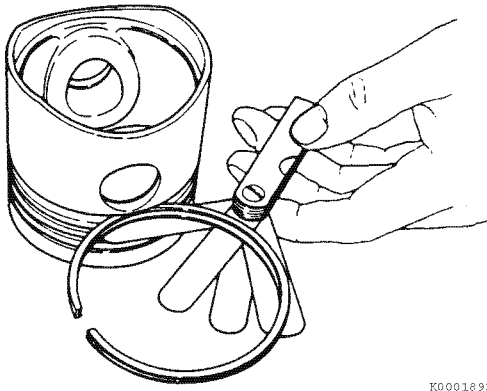

Figure 6-117
9. Place each compression piston ring in the groove as shown (Figure 6-117). Use a feeler gauge to measure the clearance between the piston ring and the piston ring land. Record the measurements. See *Piston Ring* on page 6-14 for specifications. Replace the piston if not within specification.